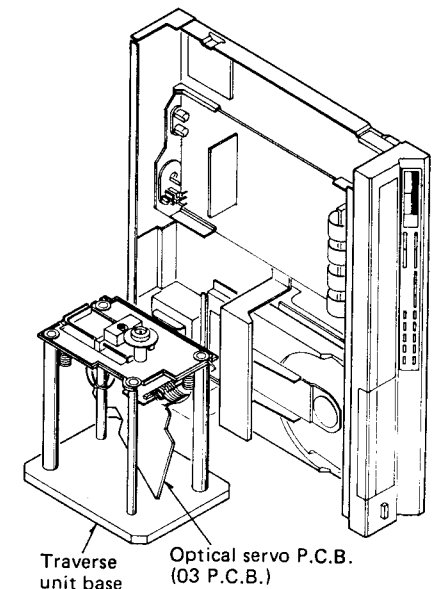

Fig. 1
2. Position the assembly as shown in Fig. 1.